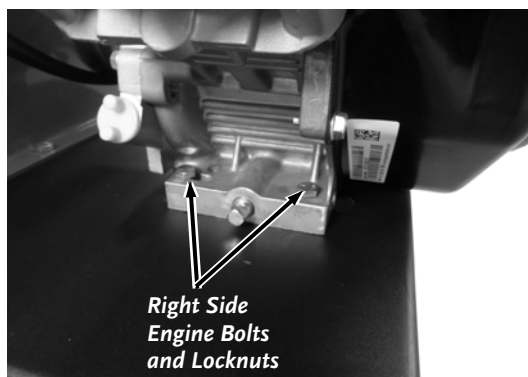

Figure 18
4. Loosen the two, right side Engine Mount Bolts and Locknuts using two 1/2" Wrenches (**Figure 18**).